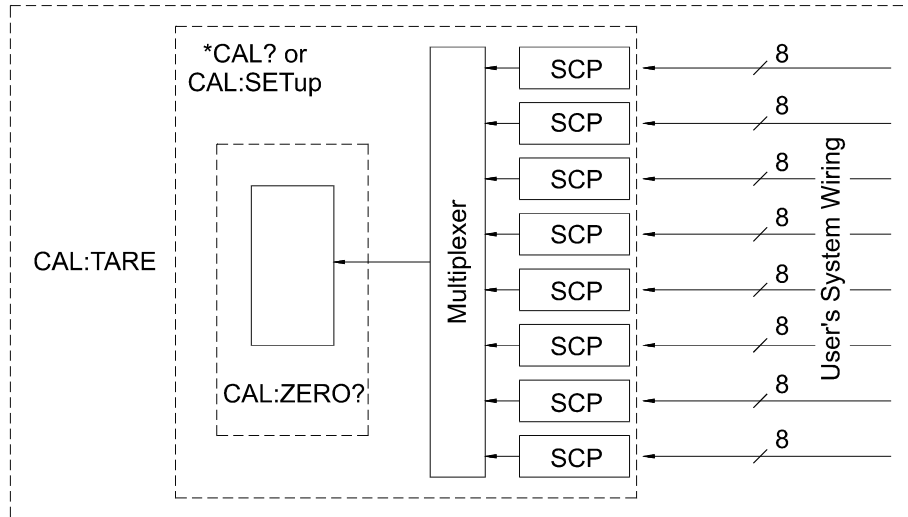

Figure 6-3. Levels of Working Calibration
2. "Working Calibration", of which there are three levels (see Figure 6-3):